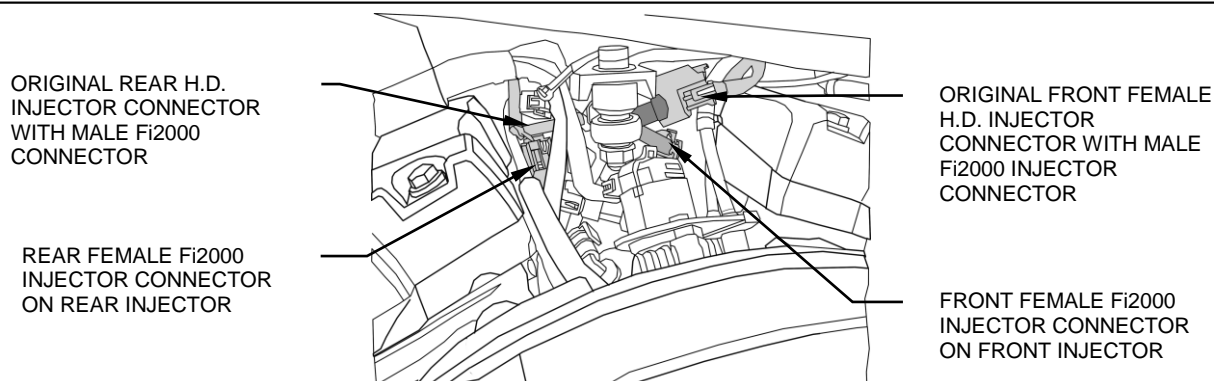

FIGURE 2
4. Attach one pair of Fi2000 module's injector plugs to the front injector. Take the original H.D. connector and insert the corresponding Fi2000 connector into it, refer to Figure 2.
5. Attach the Fi2000 module's remaining injector plug onto the rear injector. Then take the original H.D. connector and insert the corresponding Fi2000 connector into it, refer to Figure 2.